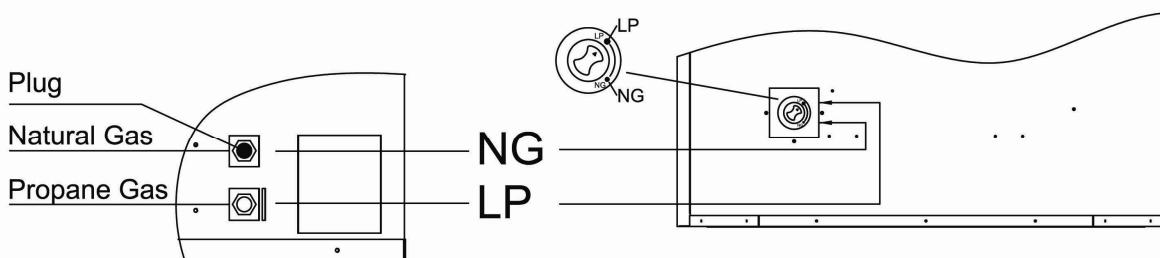

Figure 15
2. For PROPANE GAS, press in knob using a flat screw driver with a blade the width of a quarter and turn knob counterclockwise ↗ until the knob locks into the LP position (see Figure 15). Selection valve must be locked into either the LP position or the NG position.